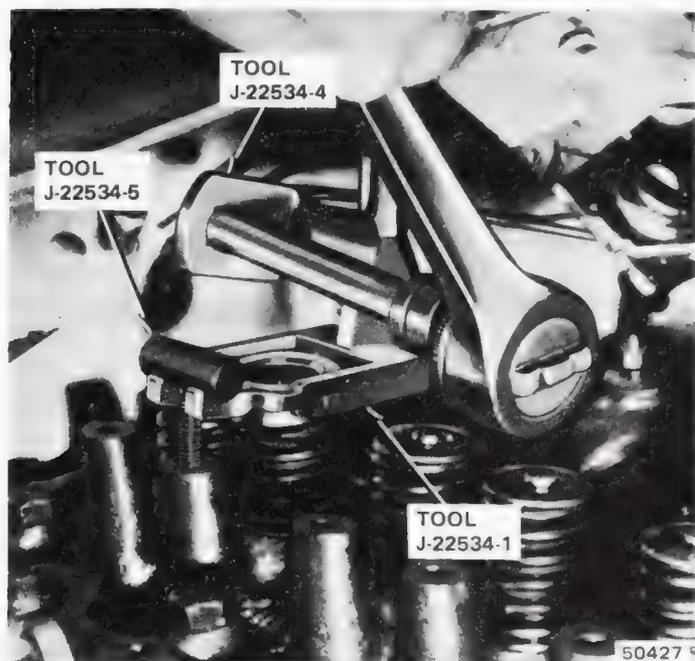

Fig. 1B-76 Valve Spring Removal
(7) Use Valve Spring Remover and Installer Tools J-22534-1, J-22534-4, and J-22534-5 to compress spring and remove locks (fig. 1B-76).